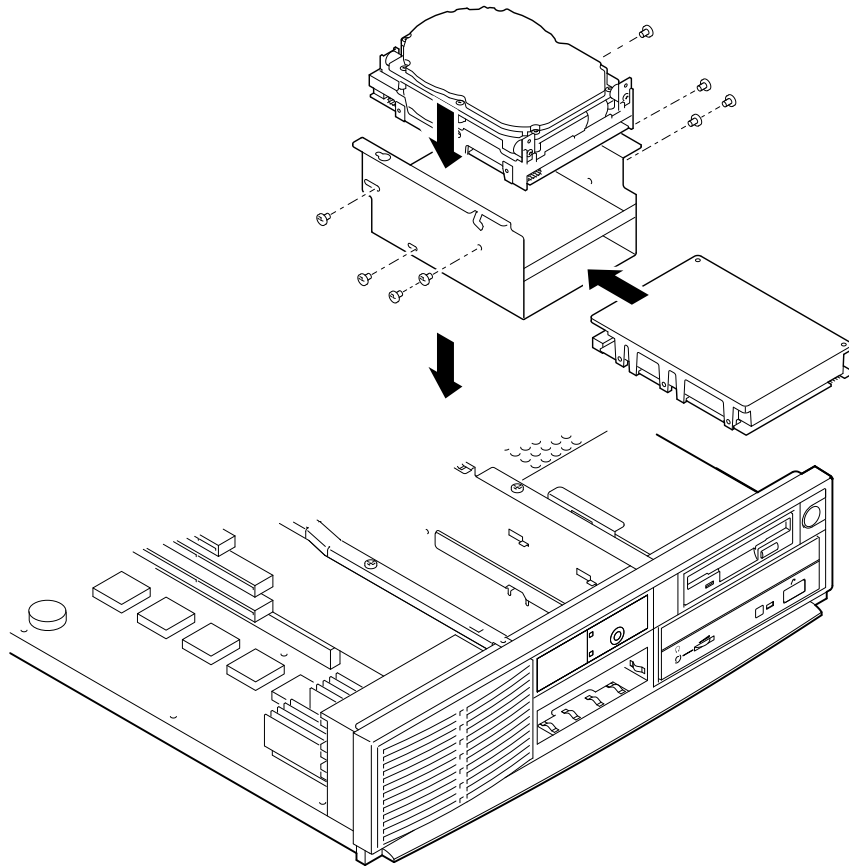

Figure 4-13 Installing Drives in Bracket
4. Orient the bracket as Figure 4-13 shows. Position the drive so that cable connections face to the rear of the system. Select the bracket mounting holes that match the threaded holes in the drive. Mount the drive in the bracket, securing it with the four screws provided with the drive.